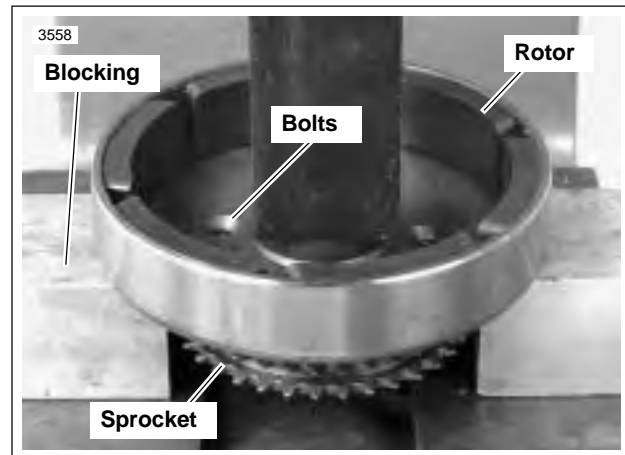

Figure 7-27. Removing Rotor From Sprocket
1. See Figure 7-27. Remove the eight bolts which secure alternator rotor to engine sprocket.
2. See Figure 7-27. Position blocking under rotor. Press sprocket free of rotor.